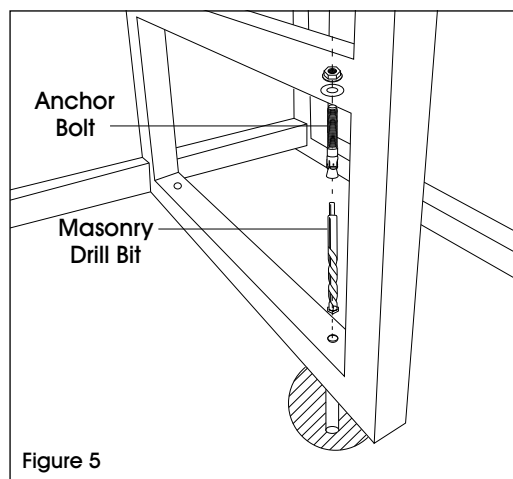

Figure 5
2. Using a 1/2" diameter masonry drill bit, drill a hole approximately 3 1/2" deep into the floor. (See Figure 5)
3. Clean out debris and dust from inside the hole. Fully insert the anchor bolt through the mounting hole on the rack and into the hole in the concrete. (See Figure 5)